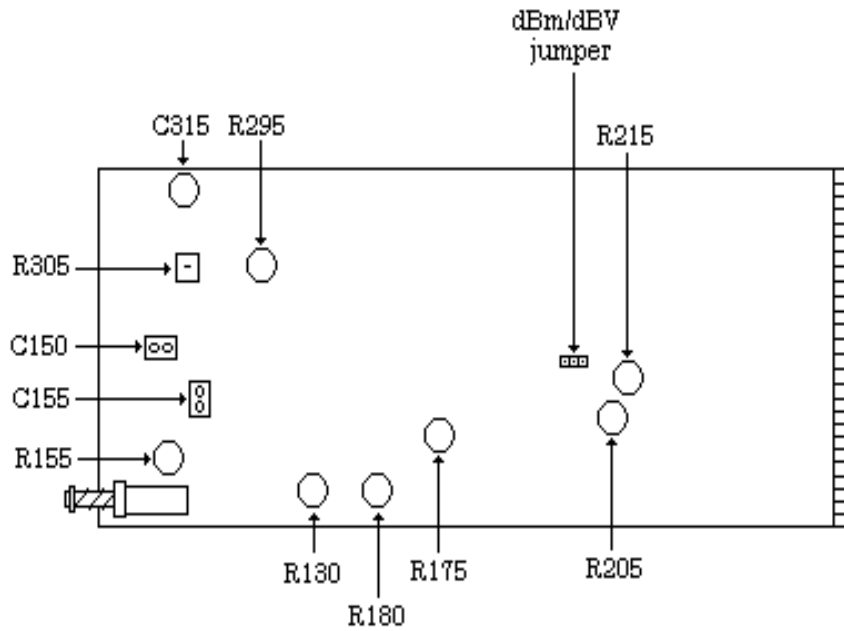

Figure 1. Type DM 502 - right side view.
- (3) Short TI **HI** and **LO**. Adjust C315 (fig. 1) until TI indicates .000.
- (4) Remove short from TI **HI** and **LO**.
- (5) Connect calibrator **OUTPUT HI** and **LO** to TI **INPUT HI** and **LO**.
- (6) Set calibrator for a 1.8 V output. Adjust R305 (fig. 1) until TI indicates 1.800 V (R).
- (7) Set calibrator for a 180 mV output.
- (8) Set TI range/function switch to **200mV DC VOLTS**. Adjust R295 (fig. 1) until TI indicates 180.0 mV (R).
(1) Adjust R130 (fig. 1) until TI indication is equal to calibrator output display indication rounded to TI digits of resolution (R).
- (1) Set calibrator to **STANDBY**.
- (2) Set TI range/function switch to **2 AC VOLTS**.
- (3) Set calibrator for a 1.8 V, 1 kHz output. Adjust R180 (fig. 1) until TI indicates 1.800 V (R).
- (4) Set calibrator for a 180 mV, 1 kHz output.
- (5) Set TI range/function switch to **200mV AC VOLTS**. Adjust R175 (fig. 1) until TI indicates 180.0 mV (R).
- (6) Set TI range/function switch to **20 AC VOLTS**.
- (7) Set calibrator for a 18 V, 1 kHz output. Adjust C150 (fig. 1) until TI indicates 18.00 V (R).
- (8) Set TI range/function switch to **500 AC VOLTS**.
- (9) Set calibrator for a 500 V, 100 Hz output. Adjust R155 (fig. 1) until TI indicates 500 V (R).
- (10) Set calibrator for a 500 V, 10 kHz output. Adjust C155 (fig. 1) until TI indicates 500 V (R).
- (11) Repeat (1) through (10) above as necessary for best overall in-tolerance frequency response.
- (1) Position **dBm/dBV** jumper (fig. 1) in **dBm** position.
- (2) Connect calibrator **OUTPUT HI** and **LO** to TI **INPUT HI** and **LO**.
- (3) Set TI range/function switch to **AC VOLTS - 20 dB** and press **dB/OUT: NORM** pushbutton in to **dB**.
- (4) Set calibrator for a 77.46 mV, 1 kHz output. If TI does not indicate between -0.5 and +0.5, perform **b(1)** below.
- (5) Set calibrator for a 8.69 mV, 1 kHz output. If TI does not indicate between -18.5 and -19.5, perform **b(2)** below.
- (6) Set calibrator for a 690.36 mV, 1 kHz output. TI will indicate between +18.5 and +19.5.
- (7) Position TI **dBm/dBV** jumper (fig. 1) in **dBV** position.
- (8) Set TI range/function switch and calibrator output for settings listed in table 7. TI indications will be within limits specified.
- (1) Adjust R205 (fig. 1) until TI indicates 0.00 (R).
- (2) Adjust R215 (fig. 1) until TI indicates -19.00 (R).